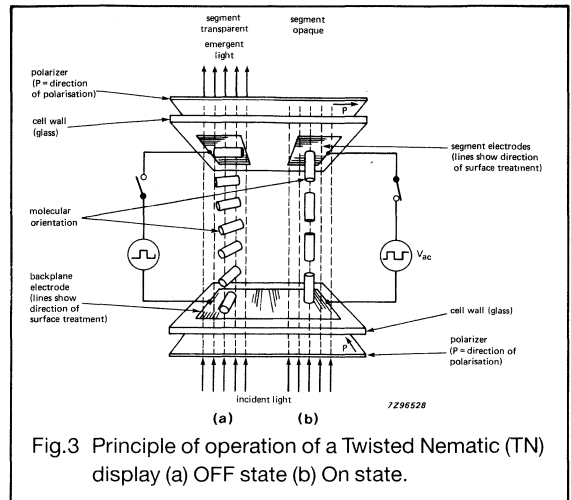

Fig.3 Principle of operation of a Twisted Nematic (TN) display (a) OFF state (b) On state.
The operating principle of Twisted Nematic (TN) LCDs is illustrated in Fig. 3. The nematic liquid crystal molecules are anchored in a fixed direction at the top and bottom plates by the orientation layer. As the orientation directions of the top and bottom polarizers differ by an angle of 90° the crystal molecules are twisted through a 90° helix. Polarizing filters are aligned with the orientation directions at the respective plates. Polarized light from the bottom polarizer is then guided by the crystal molecules through the helix to the top plate with its polarization direction rotated 90°. This property is caused by the optical anisotropy of the molecules. As such the polarization direction is aligned with the top polarizer and light passes through it to give the display a bright appearance (Fig. 3(a)). If sufficient voltage is applied across the electrodes the electrical anisotropy of the molecules will cause them to align with the electric field and the 90° twist in the optic axis will be distorted. The light will then pass through the liquid crystal, but will maintain its polarization direction and be absorbed by the top polarizer (Fig. 3(b)). On switching off the initial state is restored and the cell will again appear transparent. Under these conditions the display will appear black when ON and bright when OFF. This is known as a positive image display.